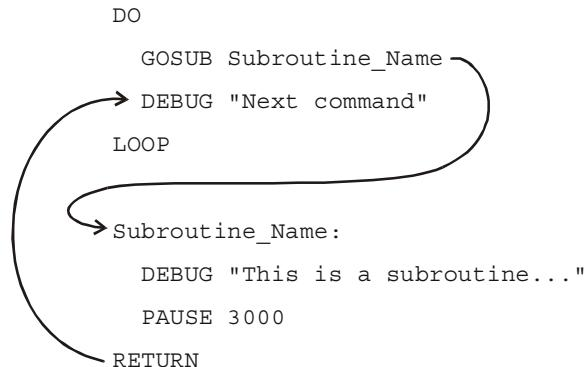

Figure 7-11
Figure 7-11 shows an example of a subroutine and how it's used. The command **GOSUB Subroutine_Name** causes the program to jump to the **Subroutine_Name:** label. When the program gets to that label, it keeps running and executing commands until it gets to a **RETURN** statement. Then, the program goes back to command that comes after the **GOSUB** command. In the case of the example in Figure 7-11, the next command is: **DEBUG "Next command"**.
- ✓ Add the subroutine example in the Figure 7-11 on page 207 to SimpleSubroutines.bs2.